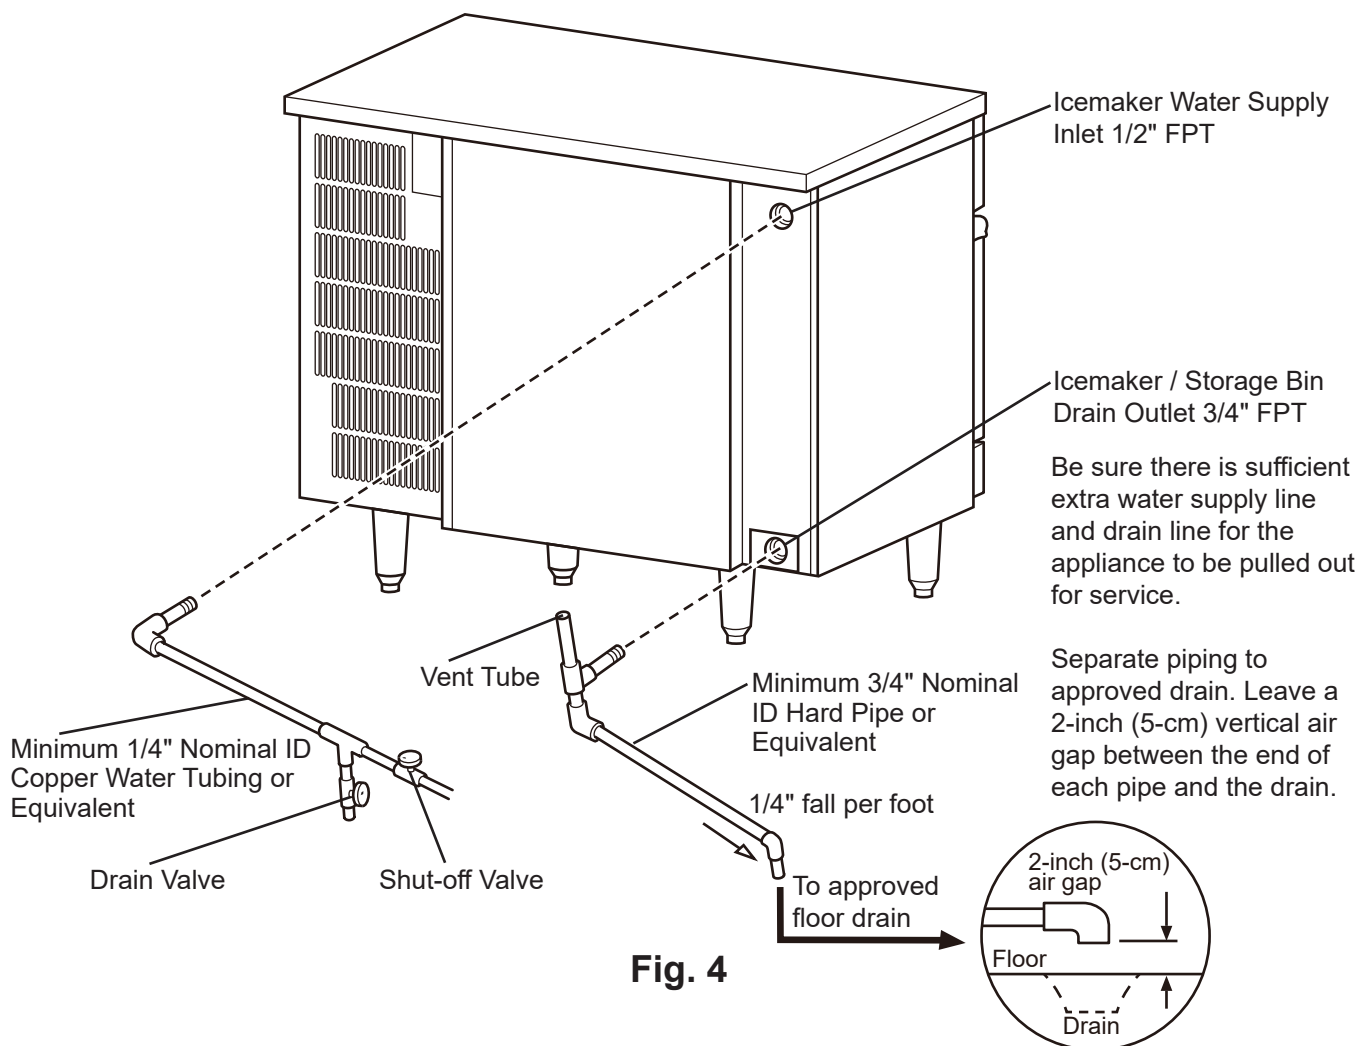

Fig. 4
- 3) Close the icemaker water supply line shut-off valve and open the icemaker water supply line drain valve. See Fig. 4.